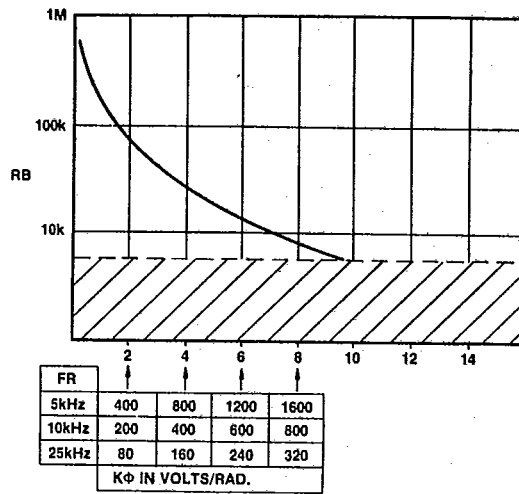

Fig.8 RB versus gain and reference frequency
Fig.8 shows that to achieve a gain of 380V per radian at 10kHz requires  $R_B$  to be approximately 39k $\Omega$ ,  $CAP$  is zero. A hold capacitor (CH) of non-critical value which might be typically 470pF is connected from CH to  $V_{SS}$ . A smaller value is sufficient if the sideband performance required is not high.